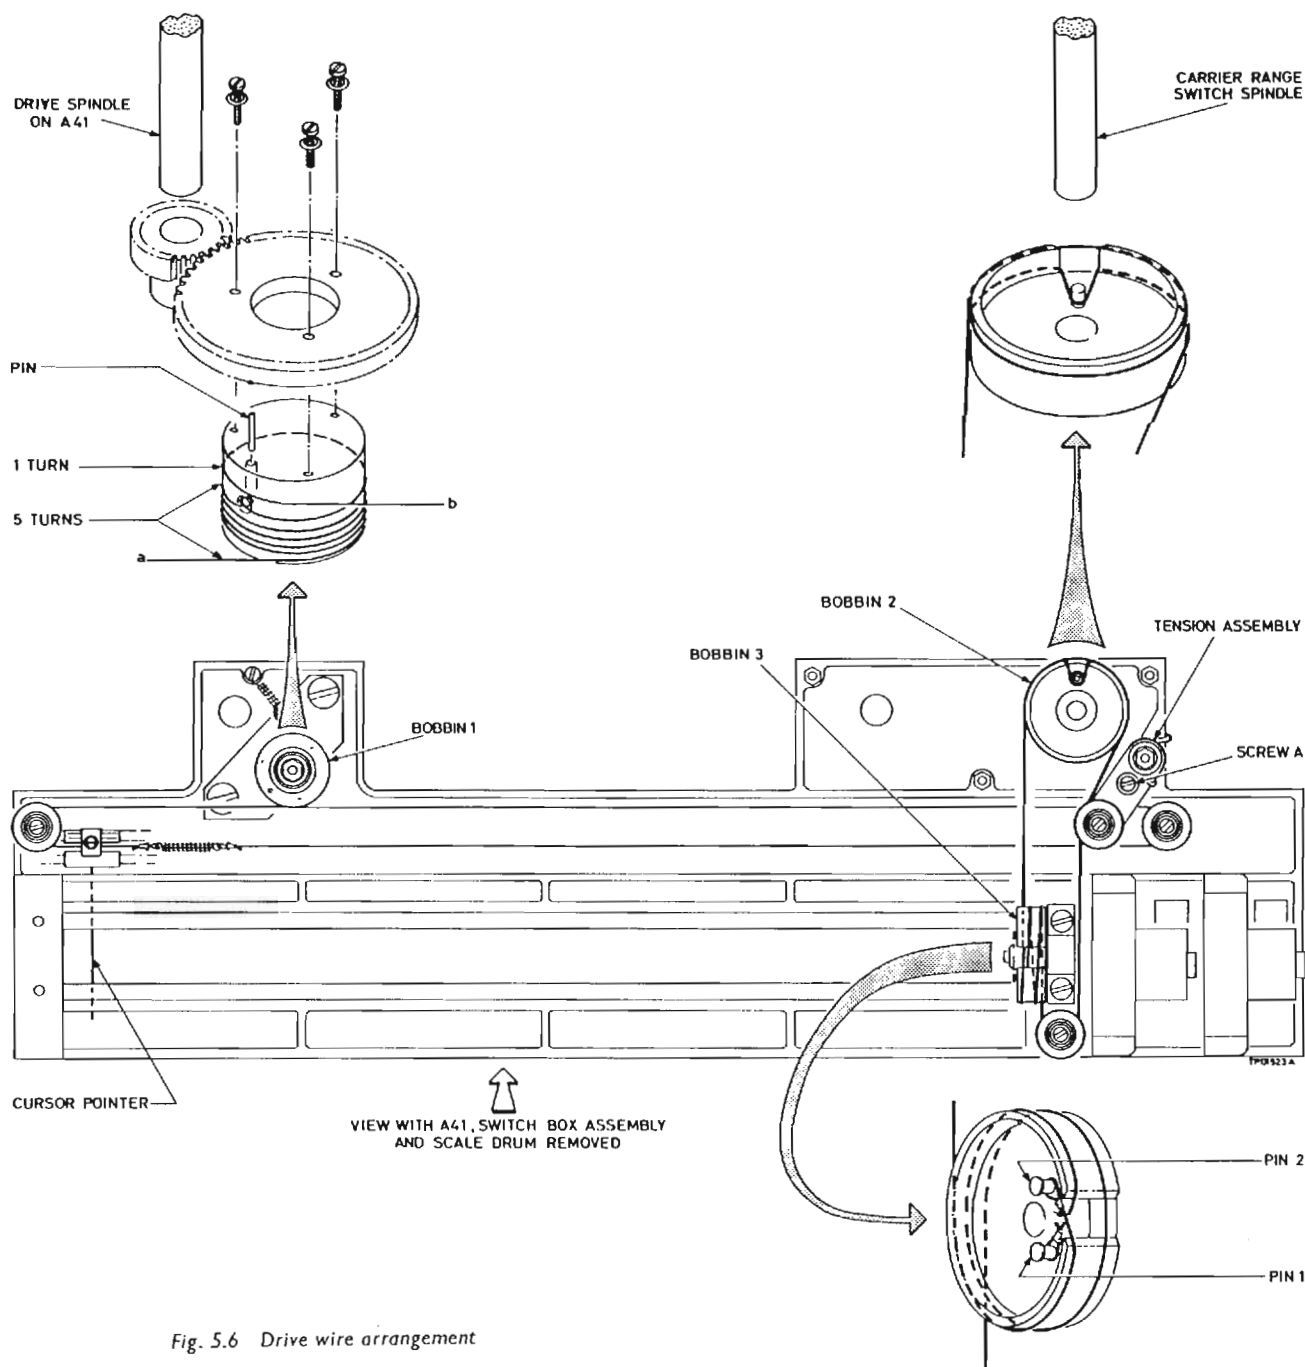
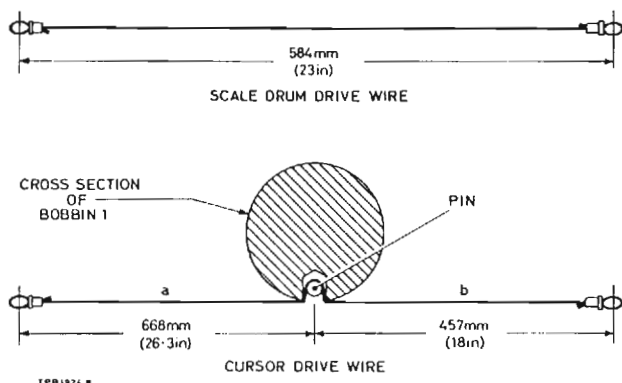

Fig. 5.6 Drive wire arrangement
Fig. 5.7 Dimensions of drive wires
- (1) Take a length of wire at least 630 mm (24.8 in) and prepare it as in Fig. 5.7 with 3.5 mm (1/8 in) diameter loops, and secure the loops by crimping the eyelets.
- (2) Slacken screw A, move the tensioning arm away, retighten the screw and remove the old drive wire.
(3) With the bobbins in the position shown in Fig. 5.6 attach one end of the wire to pin 1, take $1\frac{1}{2}$ turns round the bobbin 3, lead it round the top pulley, past the tension pulley and then $1\frac{1}{2}$ turns around bobbin 2 ensuring that a loop is taken around the screw as shown in Fig. 5.6. Finally take $\frac{1}{2}$ turn around bobbin 3 and attach the end to pin 2.
- (1) Release the old drive wire from the cursor.
- (2) Remove bobbin 1 complete with the gear wheel spindle and mounting plate; remove the M3 screw attaching the spring to the casting and the two large screws that attach the mounting plate to the casting. Note, these two screws are locked with varnish and may at first be stiff to remove; when reassembling, varnish such as Hadfields 4270-001 Blue should be applied.
- (3) Remove the gear wheel from bobbin 1, extract the pin and remove the remains of the old wire.
(4) Take a length of wire at least 1160 mm (45.7 in), attach it to the pin in bobbin 1, prepare the ends with 2 mm ($3/32$ in) diameter loops so that the dimensions are as in Fig. 5.7. Secure the loops by crimping the eyelets. Refit the gear wheel.
(5) Wind five turns using end a, and one turn with end b and temporarily secure the turns with adhesive tape.
(6) Refit bobbin 1. Pass wire around the pulleys and pull to remove slack before joining the ends with the spring.
(7) Refit cursor approximately 15 mm ($\frac{1}{2}$ in) from end a of the wire. Refit scale drum by pressing the locating pegs into engagement, refit left-hand scale drum bearing.